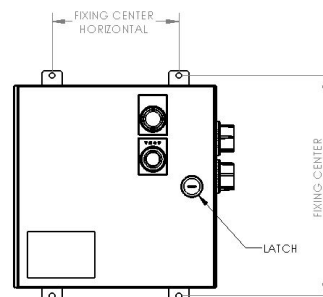

Figure 1
1. Open the battery back-up unit using a flat head screwdriver to rotate the latch ¼ turn CCW (see Figure 1).
2. The battery back-up unit may be mounted to a ceiling or wall using the welded mounting tabs on the outside of the enclosure (see Figure 1). Select a mounting location that will provide suitable strength and rigidity for supporting the battery back-up unit.
5. Use 3/8" size hardware to securely mount enclosure box to desired location. See Table 1 and Figure 1 for mounting pattern dimensions.